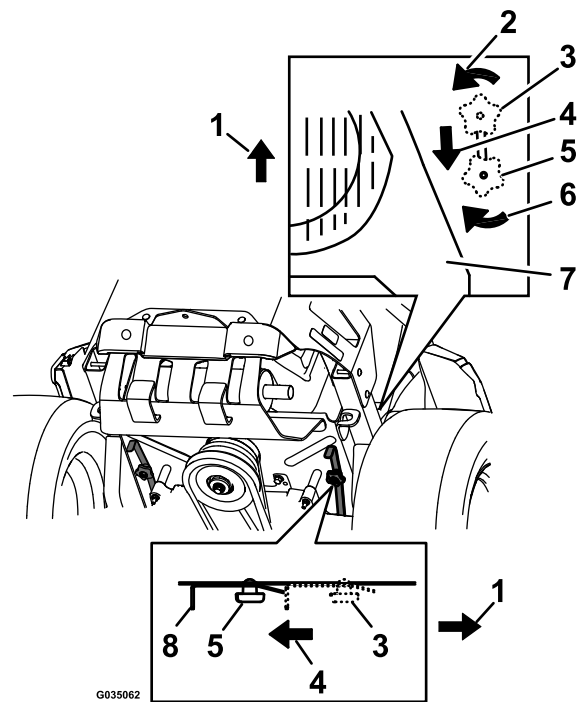

Figure 34
4. To push the machine, move both bypass knobs rearward and lock them into place (Figure 34).
6. To run the machine, move the bypass knobs to the FORWARD position and lock them into place (Figure 34).